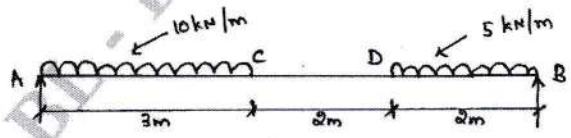

Fig.Q3(b) (14 Marks)
- b. Draw SFD and BMD for a simply supported beam shown in Fig.Q3(b). Also find the maximum bending moment and its location.